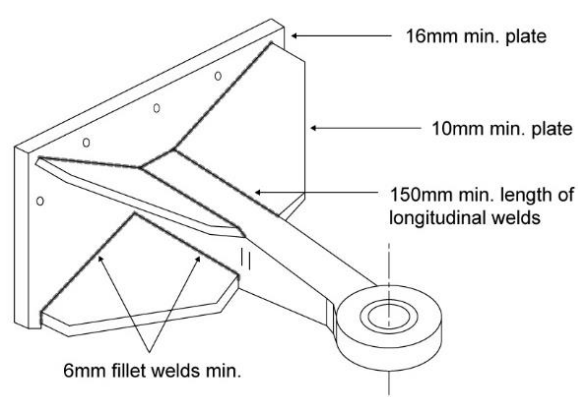

Figure 3: Example of recommended towing eye welding
- Welding of gussets to the drawbar eye are parallel to shank only with a minimum of four longitudinal welds (minimum 6 mm fillet), 150 mm in length and using hydrogen controlled electrodes or a hydrogen controlled welding process (see Figure 3).
If there are no manufacturer recommendations for welding the drawbar eye, follow these weld guidelines (see Figure 3):